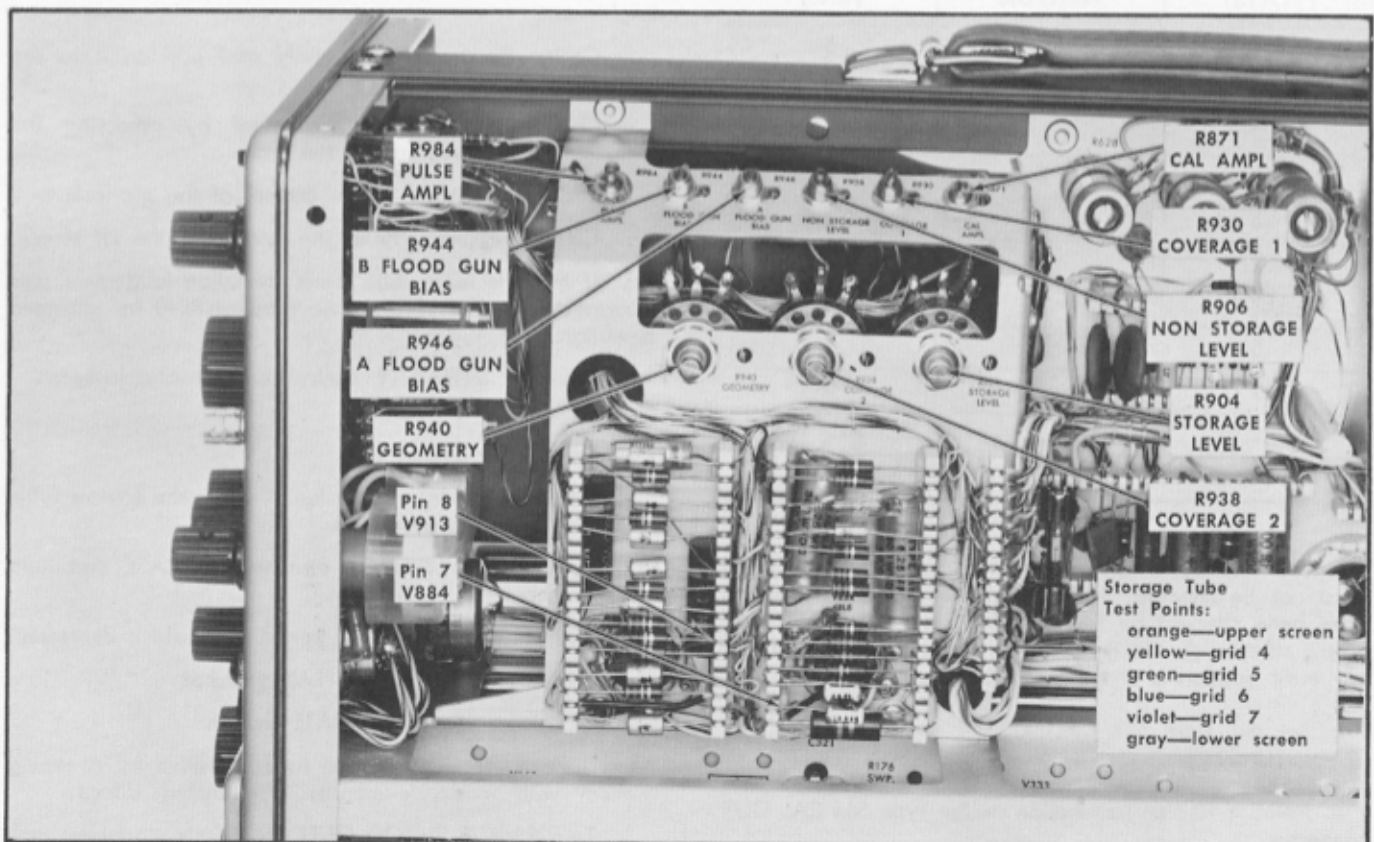

Fig. 5-5. Storage circuit and calibrator test points and adjustments on right side of Type 564.
d. Adjust R871 (CAL AMPL) for a meter reading of +100 volts. The location of R871 is shown in Fig. 5-5.
- c. Adjust R940 (GEOMETRY) for a meter reading of +180 volts. The location of R940 is shown in Fig. 5-5.
- (1). Press both DISPLAY switches to ERASE and hold them there.
- (2). Press the INTEGRATE button and hold it depressed.
- (3). Release the two DISPLAY switches.
- (4). Release the INTEGRATE button.
- b. Turn R944 (B FLOOD GUN BIAS) fully clockwise, then turn it counterclockwise until the screens are uniformly bright. Do not adjust R944 counterclockwise any farther than necessary. See Fig. 5-5 for the location of R944.
a. Connect the dc voltmeter (300-volt scale) between ground and pin 8 of V913 (lower storage-target backplate). See Fig. 5-5.